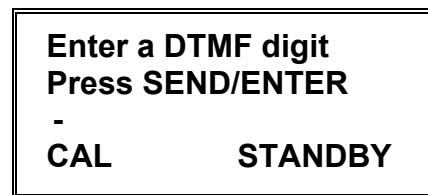

Fig. 3.3: Calibration Mode
- Press '3' from the EXTENDED MENU. CAL mode appears on the LCD with unit status as STANDBY as shown in fig. 3.3.